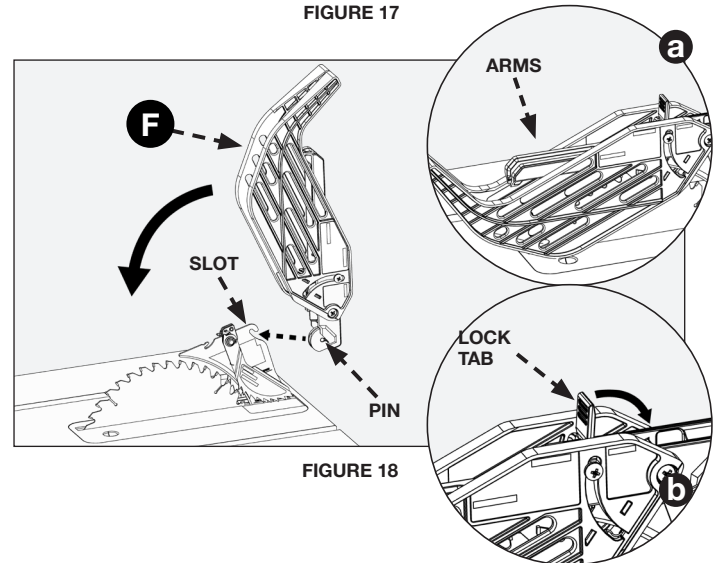

FIGURE 18
While holding the blade guard assembly (F) in a vertical position, as shown in Fig. 18, pull the blade guard assembly pin all the way up into the rear slot on the riving knife.